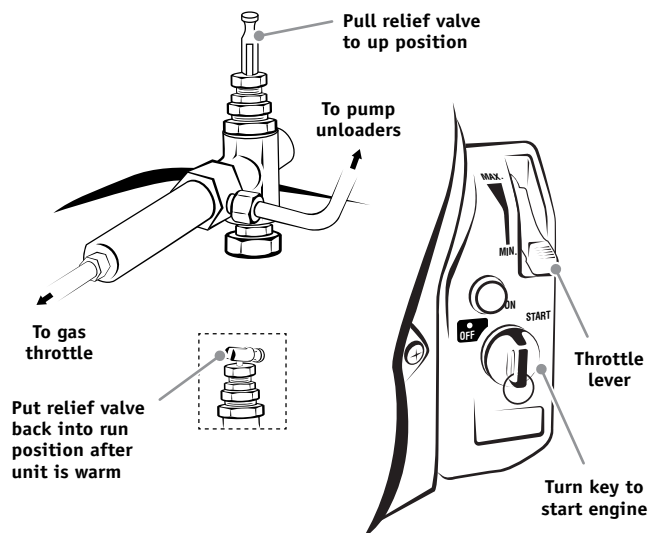

Figure 5: Starting Procedure
4. Pull pressure relief knob to up position to release head pressure and for easy starting. Failure to open pressure relief valve will cause electric start motor to overheat. See figure 5.